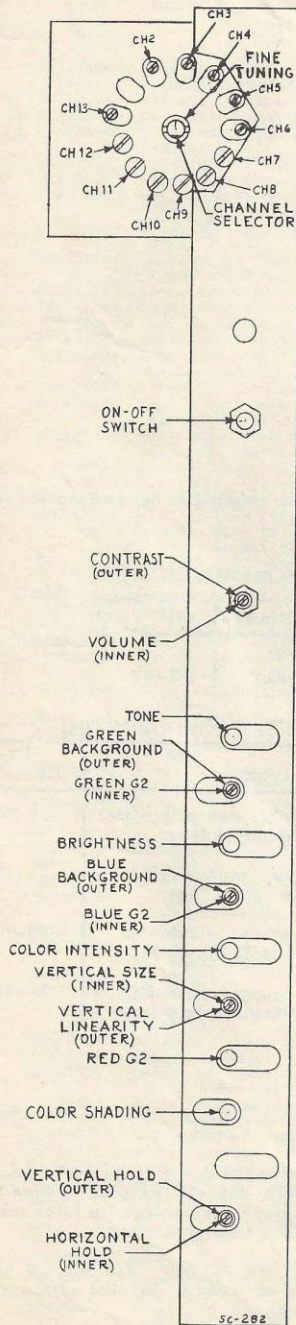

FIGURE 1.
(Use Figure 1 for locations)
FRONT PANEL SERVICE CONTROLS (located under the "well" See Figure 1 for locations).
1. Set BRIGHTNESS and CONTRAST controls (front panel Fig. 1) for a normal picture. Set the CHROMA control (front panel) to minimum...fully counterclockwise.
6. Turn Green G-2, Green-background, Blue G-2 and Blue background controls to minimum (fully counterclockwise). Set Red G-2 slightly below a saturated red color (see Figure 1).